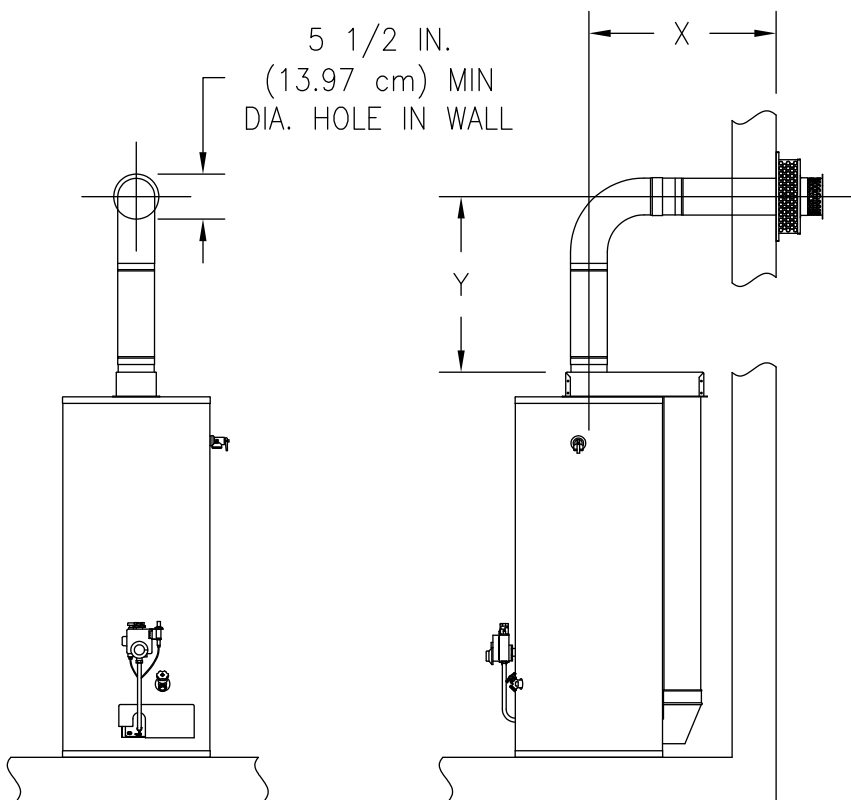

Figure 3
1. Measure the vertical height “Y” required in your installation (See Figure 3). Reference the appropriate Table A to determine number of vent-air intake kits required in your installation.
2. Measure the horizontal length “X” required in your installation (See Figure 3). Reference Table A to determine number of vent-air intake kits required in your installation.